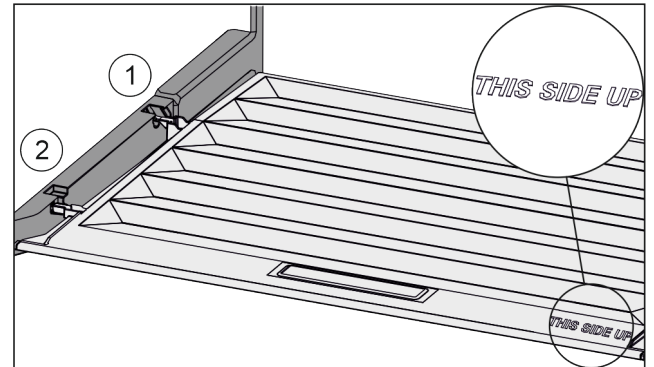

Fig. 112
- ▶ Insert the lip of the cover over the opening of the rear bracket Fig. 112 (1) and click into place Fig. 112 (2).